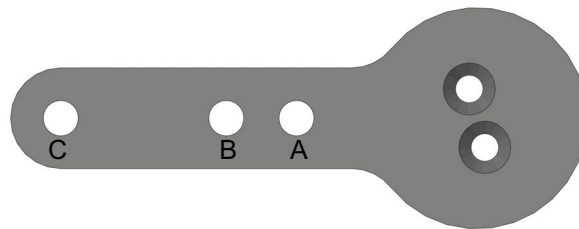
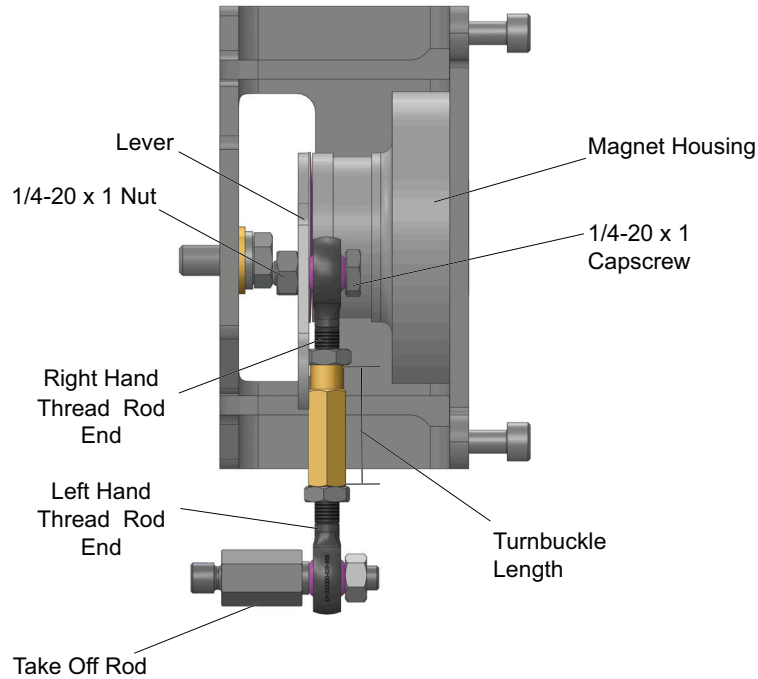

Figure 12 Lever for Model 87/88 Multispring Actuator
Figure 13 Reciprocating Linkage
4. Select mounting hole A, B, C or D for the stroke of the valve. For example, hole B is shown in Figure 12 for a size 10 actuator with 1.0" stroke.
6. Apply Loctite and thread the take-off rod to the actuator stem connector (Figure 13). Ensure that the travel pointer located on the coupling is correctly positioned.
7. Attach the right hand threaded rod end to the lever using a 1/4 - 20 x 0.75" cap screw and nut as shown in Figure 13. The lever hole position to be used depends upon the specific valve stroke. Refer to Figure 12 and the Reciprocating Valve Linkage Selection, Table 3 on page 31.
9. Secure the magnet housing assembly, including the lever and right hand rod end, to the bracket with four M5 X 10 mm flat head screws using 5mm Hex Key (Figure 13).
11. Thread the turnbuckle onto the left hand threaded rod end. Refer to Figure 13.